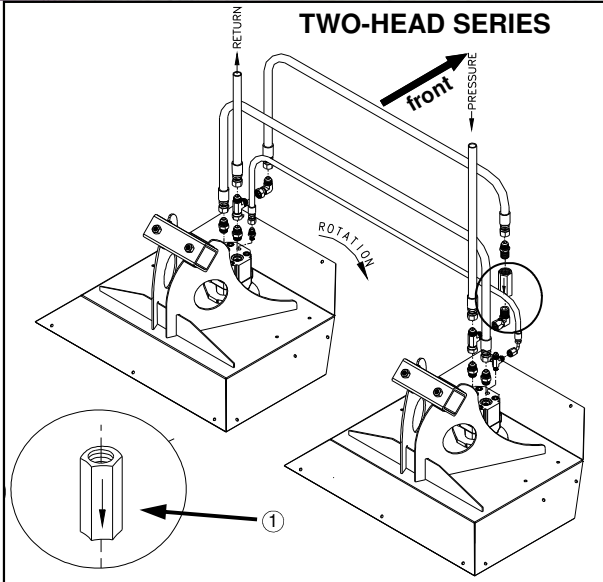

FIG 4.21
Hydraulic hoses on cutter heads should be hooked up so blades on heads mounted right of operator rotate according to figures 4.21 and 4.22 (clockwise from above). Refer to the Hagie 204SP Parts Manual for correct hardware, hose lengths, and hydraulic schematic.
Care should be taken when installing check valve (fig. 4.21, item 1) on cutter motor so the flow arrow is oriented correctly (either two-head or three-head series).